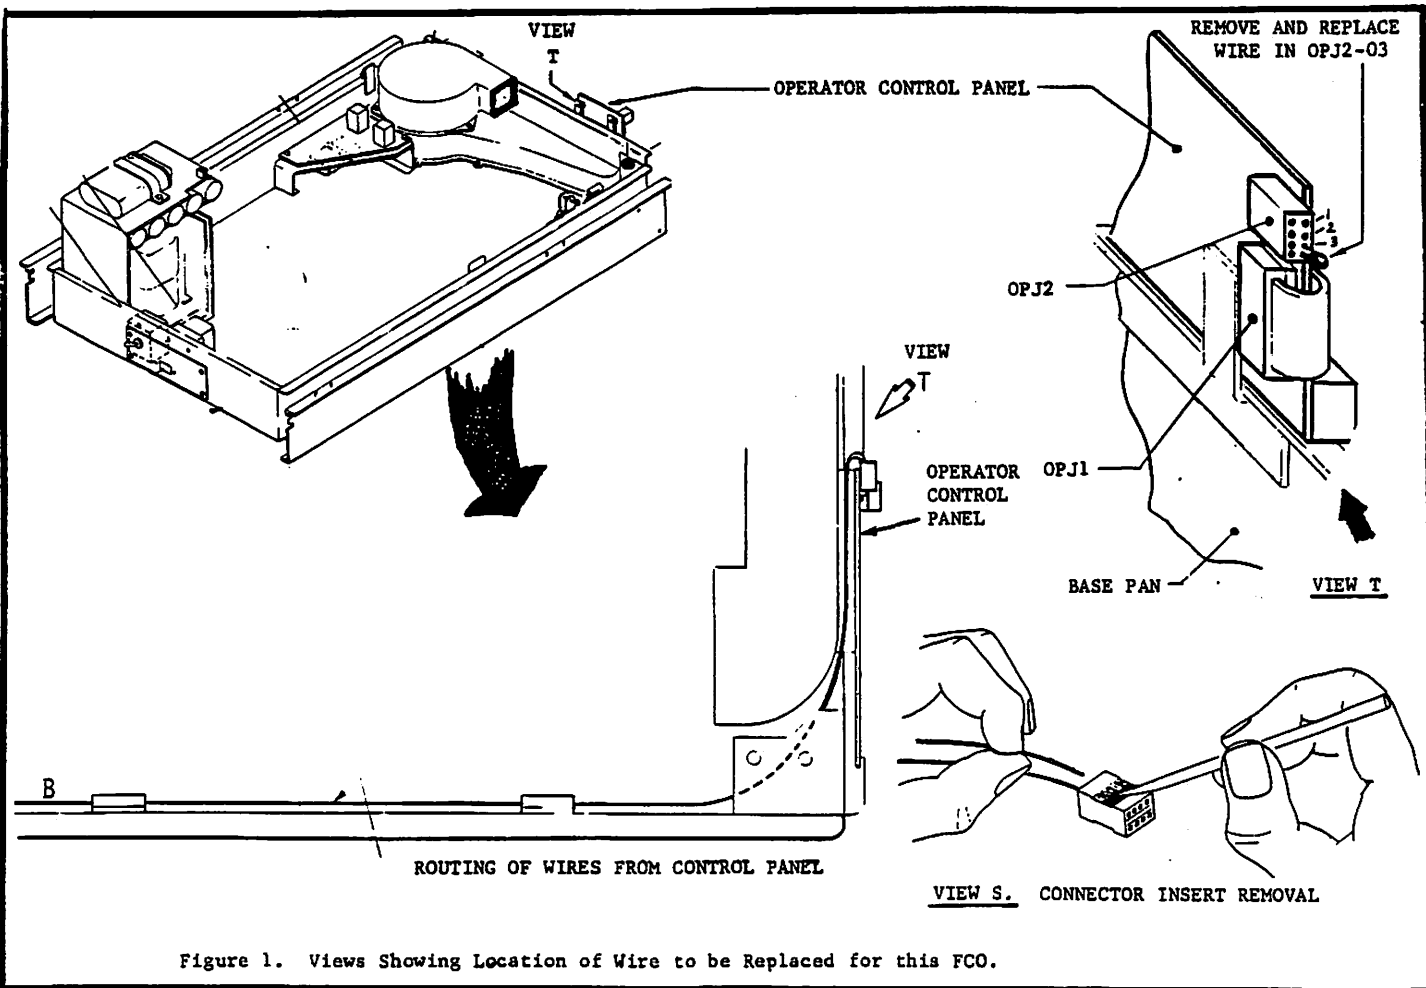

Figure 1. Views Showing Location of Wire to be Replaced for this FCO.
- F. Refer to Figure 1. Disconnect eight-pin connector OPJ2 from the operator control panel at the left front of the base pan. Extract terminal at OP02-03. Refer to View S, Figure 1. To extract terminal, lift retaining tab slightly using a narrow pointed object such as a small, very thin knife blade, and with a small pull force on the wire, slide the terminal from the connector body. Now refer to Figure 2. Disconnect opposite end of the wire at SW1-0C (deck down switch) located near the electronics module under the left side of the deck. Cut the ends of the disconnected wire and leave in the harness.
- V. Log the WANG LABORATORIES FCO# 1004 on the unit FCO log on the side of the electronics module. Insert Figures 1, 2, 3 and the FCO kit parts list (Section 7) behind page 7-8 in the Hardware Maintenance Manual (WL# 729-0198A). Insert page 8 of this FCO in the manual in front of page 7-23 and cross out the old 7-23, but do not remove it as there is valid information on the other side.